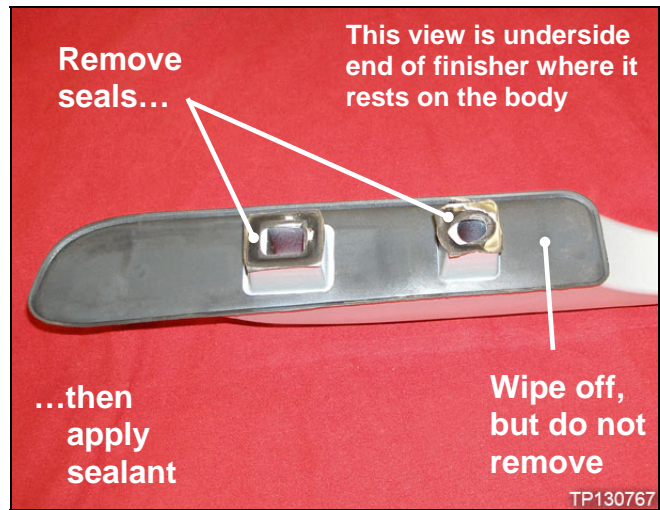

Figure 20
6. Clean off (remove) all seals on both finishers where shown in Figure 20.